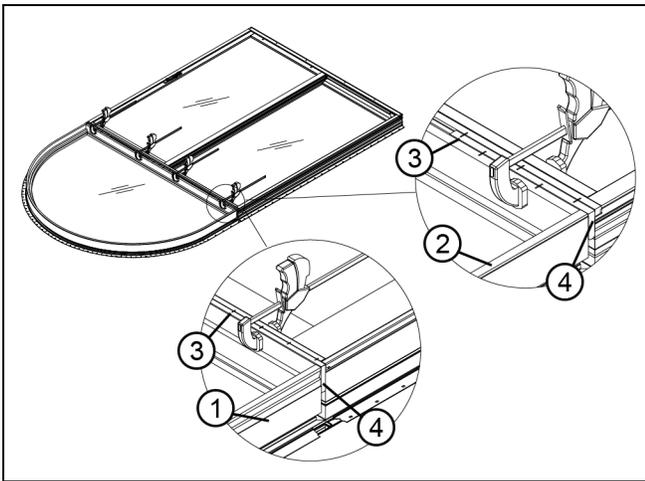

Figure 42
7. Apply additional clamps if necessary and fasten interior wood members with 1/2" x 1/2" 16 gauge staples spaced every 5" (127). See Figure 42.